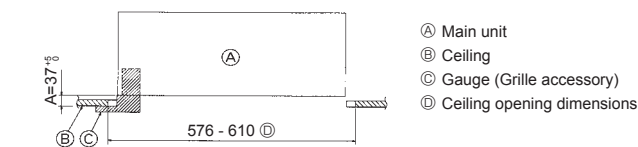

Fig. 2-6
3. When the main unit can not be aligned against the mounting hole on the ceiling, it is adjustable owing to a slot provided on the mounting plate. (Fig. 2-6)